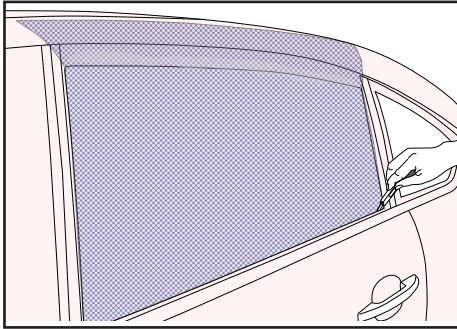

Figure 27
- › Cut the film at the bottom of the window and at the 2 lateral sides 1 mm (0.04 in.) from the seals. (FIG. 27)